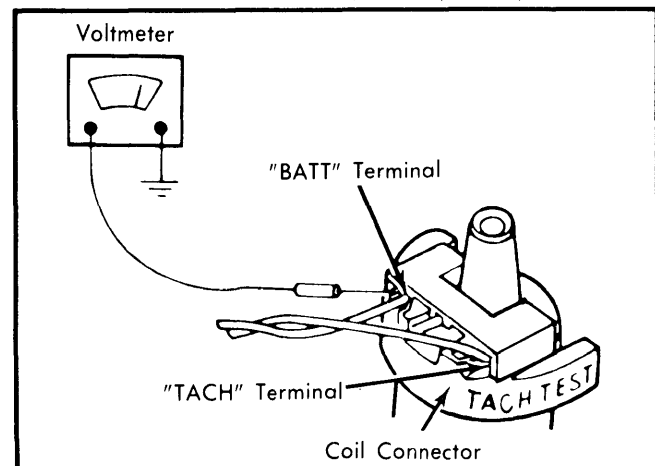

Fig. 6 Checking for Battery Voltage at Ignition Coil Positive ("BATT") Terminal
tach negative lead to a good ground. See Fig. 6. Turn ignition "OFF" after reading voltage.
2) Hold ignition switch in "START" position. Connect voltmeter positive lead to ignition coil positive ("BATT") terminal and negative lead to ground. See Fig. 6. Take reading. Then insert